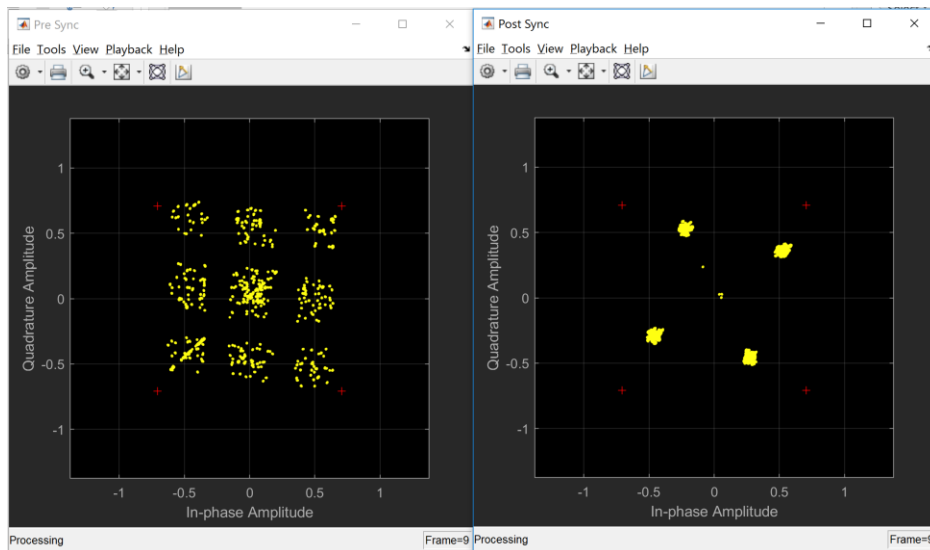

Figure 5 Constellation of QPSK signal before and after timing recovery
**Running the script multiple times, you will observe different constellations each time.** This is due to the impairments already discussed. An example constellation set is shown in Figure 5.